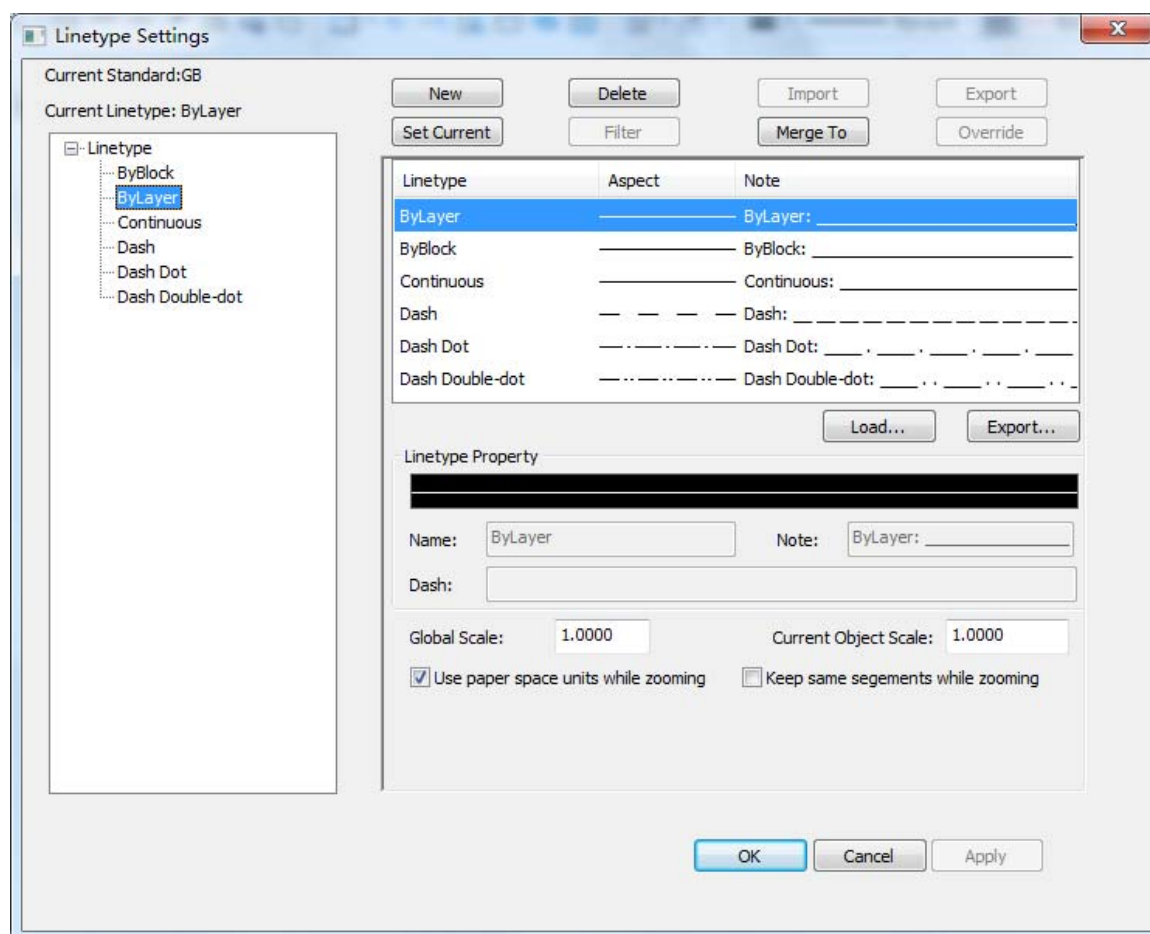

Figure 1-49 Line type dialog box
- 2) In the layer status of the layer that needs to be changed, click button Line type, the below shown dialog box will popup, as shown in figure 1-49.